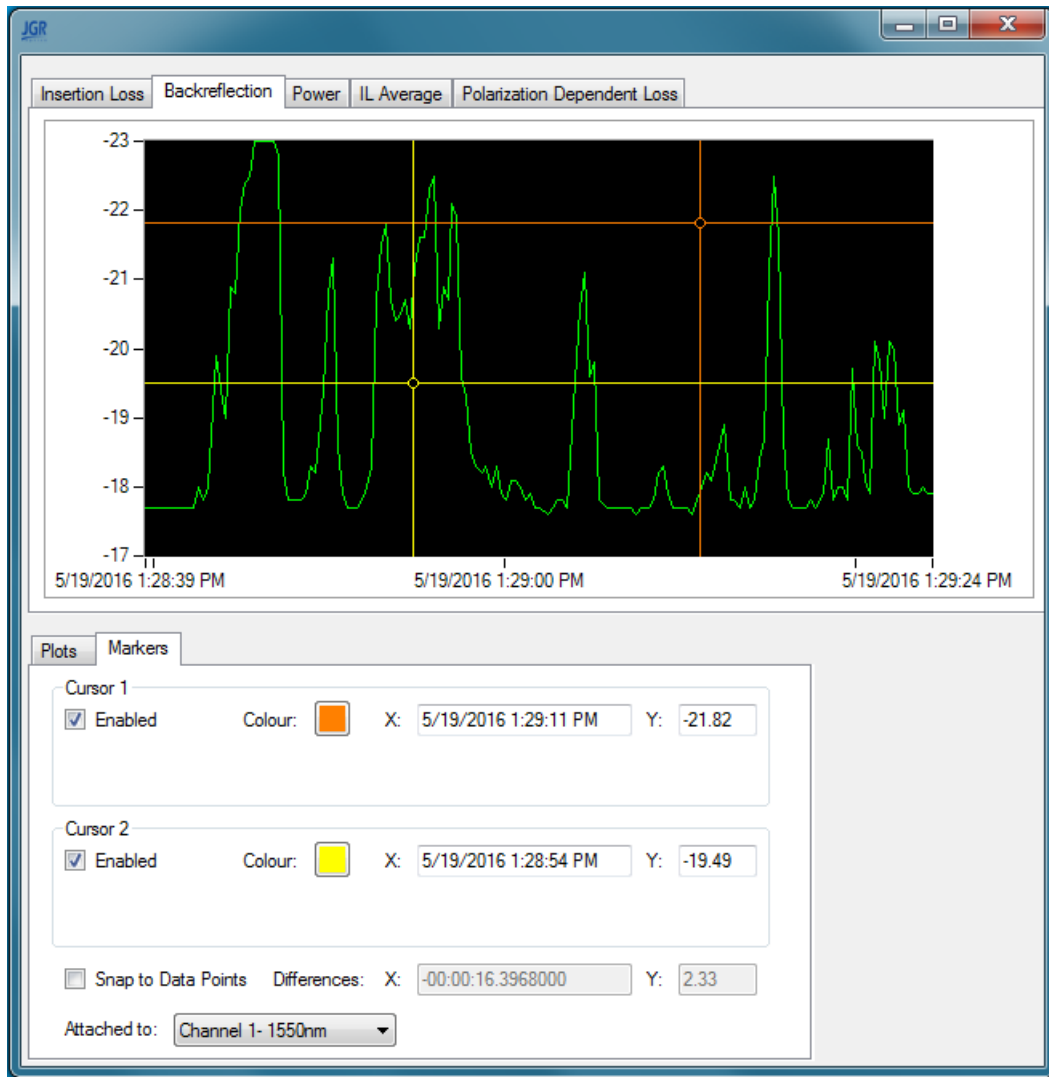

Figure 6.9: A sample Backreflection graph with two data markers enabled.
- Select the Markers tab in the graphing window to view the marker options (Fig. 6.9).